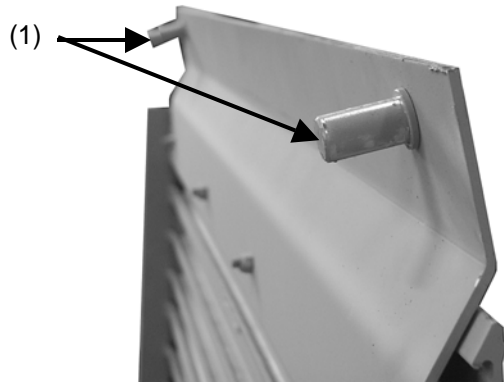
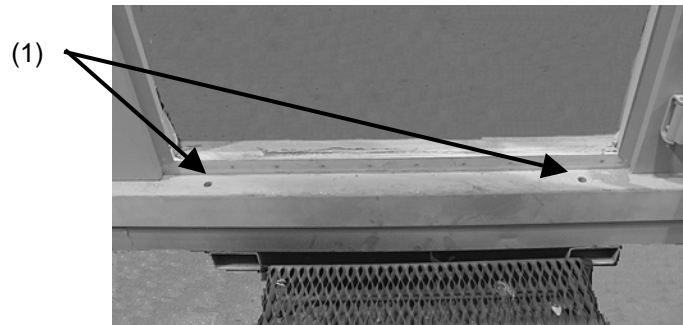

Figure 2-6. Pegs on bottom of ramp
Figure 2-7. Bottom of personnel doorway.
3. Once ramp is completely out of storage compartment, lift end closest to container and attach it by placing pegs (1) on bottom of ramp (Fig. 2-6) in holes (1) at bottom of personnel door (Fig. 2-7).